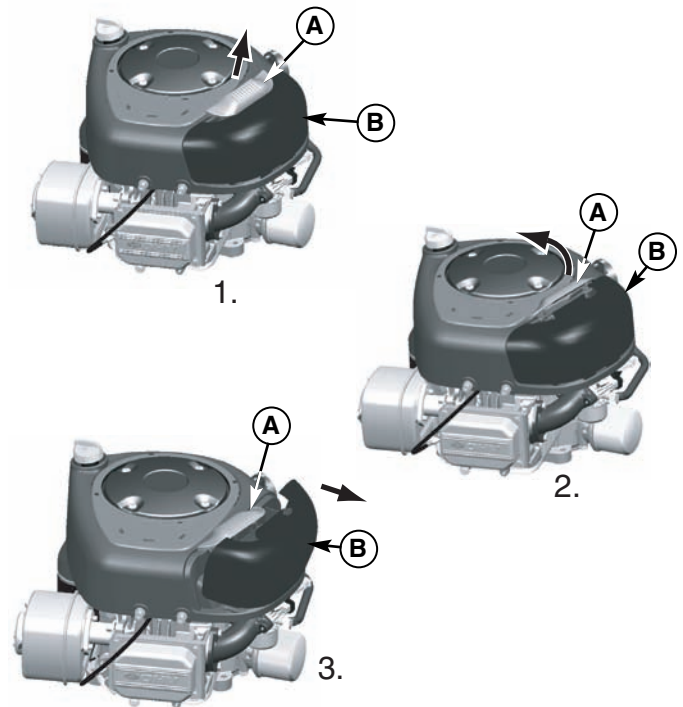

Figure 35. Air Filter Assembly - Briggs & Stratton Single Cylinder Models
1. Lift up on the bottom of the latch (A, Figure 35 or 36) and flip the latch away from the cover.